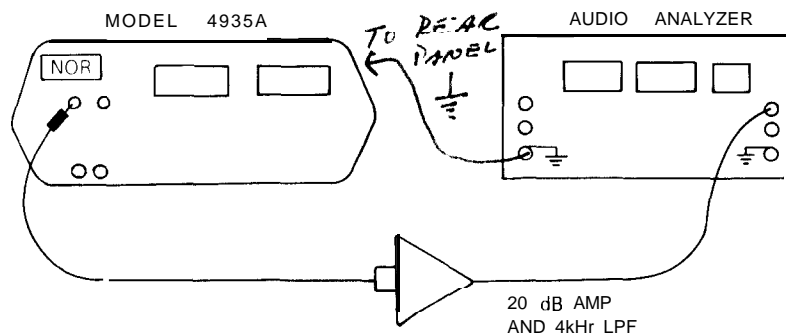
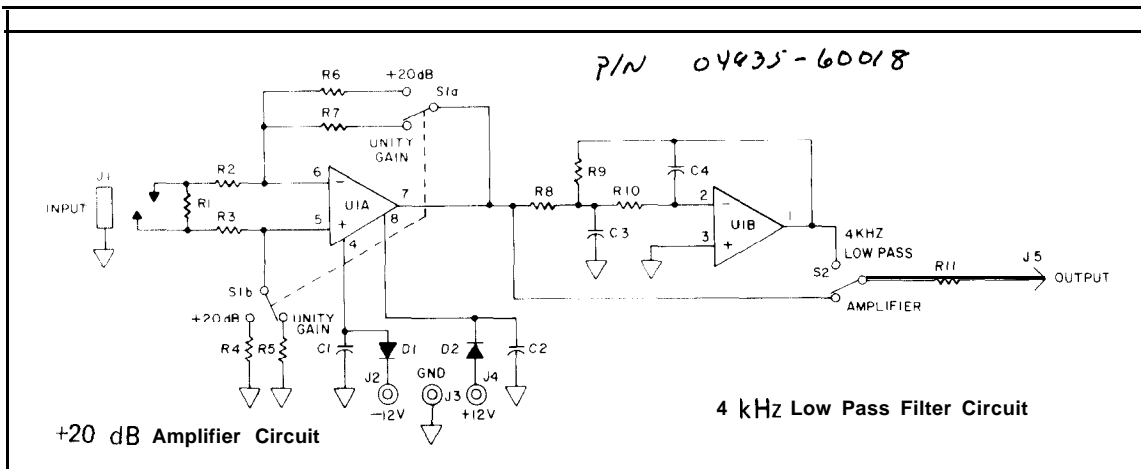

Figure 4-12. -40 dBm Distortion Test
Figure 4-13. Filter Circuits*
* see figure 4-13 for circuits
8. Connect an amplifier with +20 dB gain in the signal path as shown in Figure 4-12. The Power Supply should supply ±12 V to the +20 dB Amplifier and 4 kHz Low Pass Filter Board. See Figure 4-13 for the circuit and Table 4-14 for the Parts List.